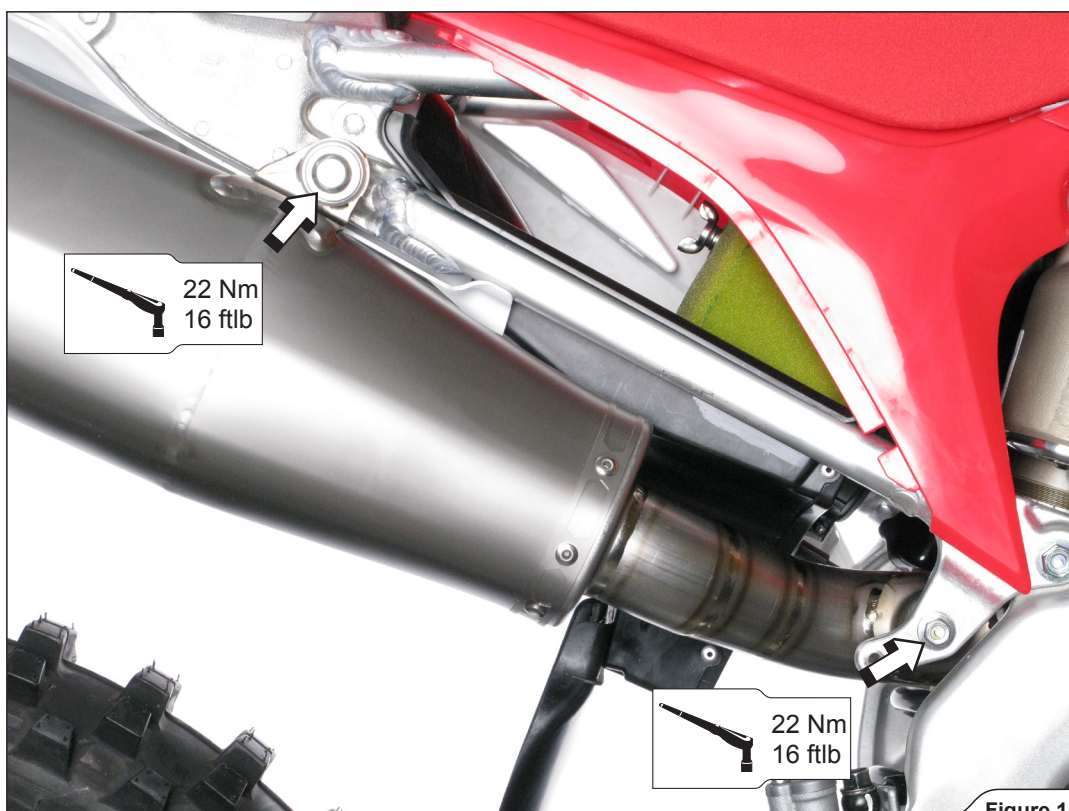

Figure 14
8. Align the muffler in respect to the motorcycle and tighten the upper muffler bracket onto the subframe, using Akrapovič bolt and washer and lower bracket using stock bolt (**Figure 14**).